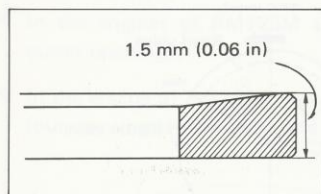

Fig. 6. Keystone rings
- Both 1st and 2nd rings for the engines of Models RM100A and RM125M are of keystone type shown in Fig. 6.